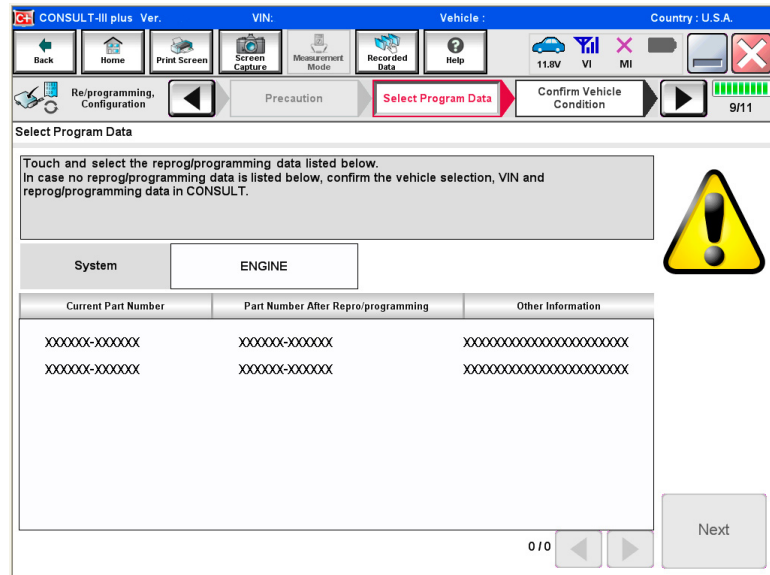

Figure 13
- In this case, the screen in Figure 13 displays.